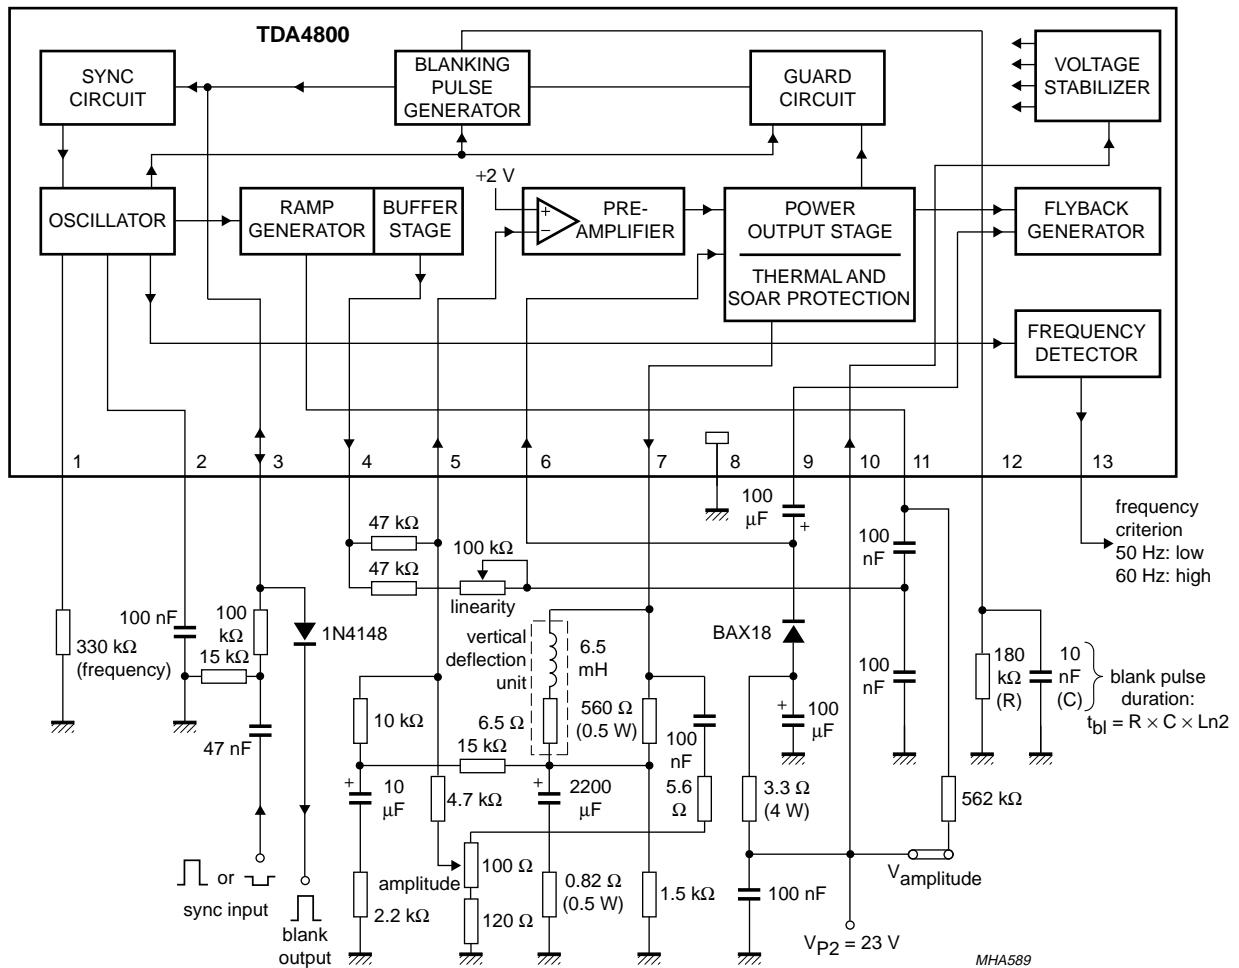

Fig.4 Test and application circuit.
**TDA4800 in the test and application circuit (see Fig.4)**